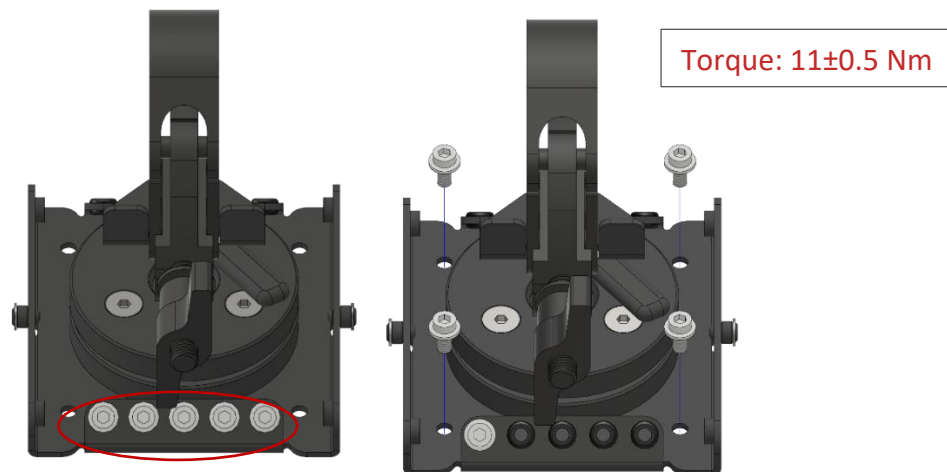

Figure 18 Securing the ECO Link
Step 1: Remove four of the five **M6x16 self-locking screws** from their parking position, see red circle in Figure 18.
Step 2: Fix the four **M6x16 self-locking screws** with a torque of 11 Nm to secure the ECO Link to the compatible ECO Series product (see Figure 18). Ensure that each screw passes through the plate and properly engages with the corresponding threaded hole. See Figure 17 in regards of compatible products to which you can fix the EVO Link.